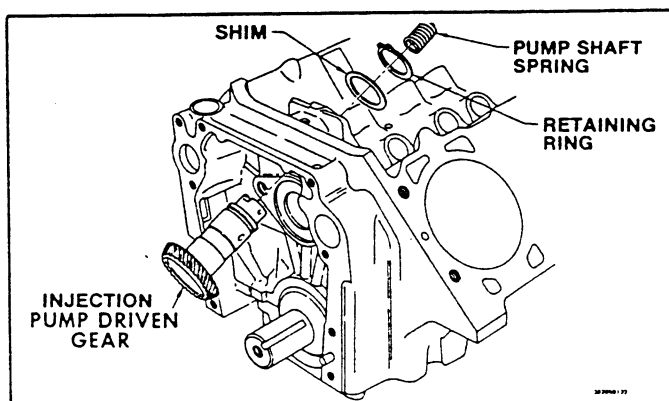

Fig. 50 - Injection Pump Driven Gear, Spring and Shim
5. Injection pump drive and driven gears and spring (Fig. 50)
- Gear end play. If not within .05 - .15 mm (.002" to .006"), select an appropriate shim to obtain the clearance. (Fig. 50)
13. Injection pump drive gear (Fig. 50)